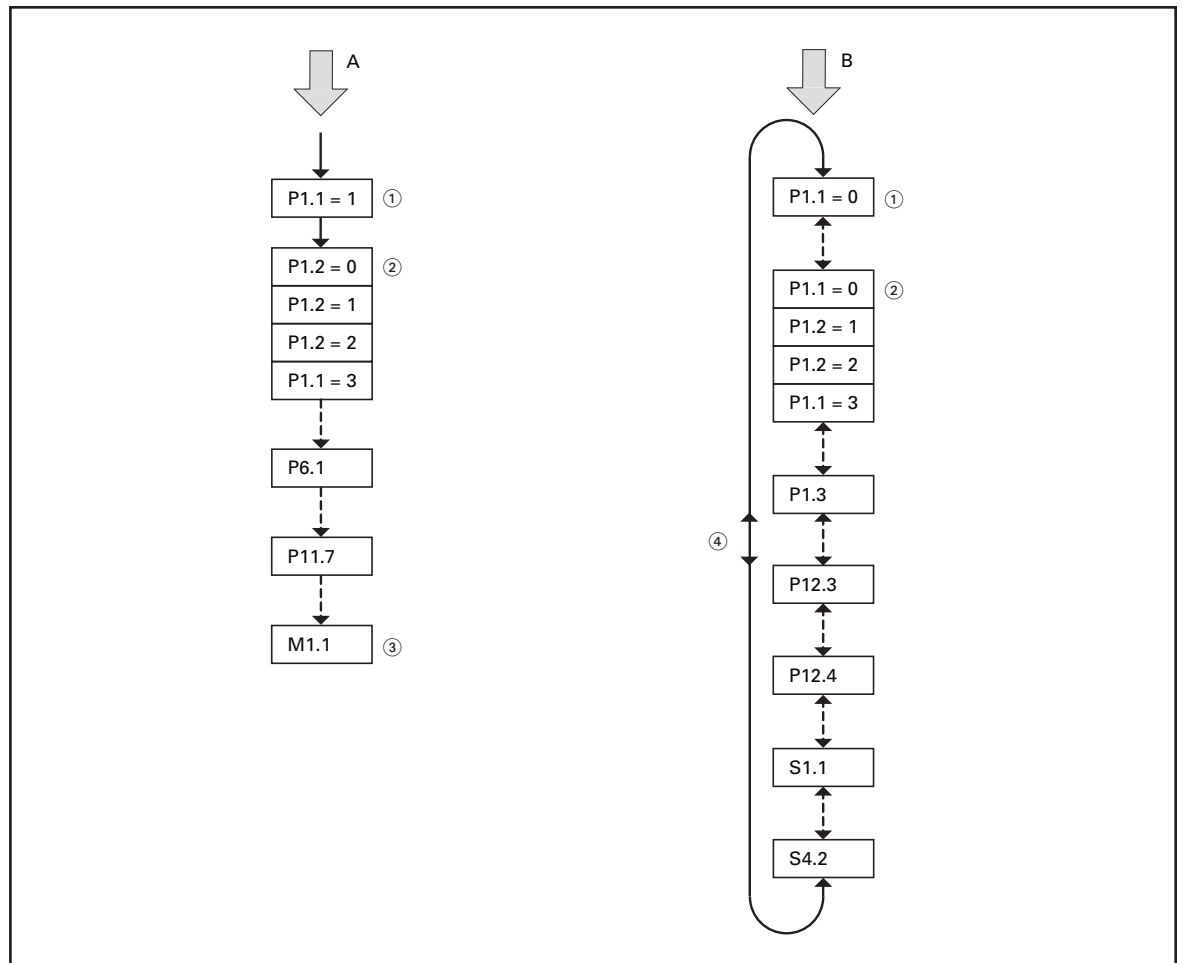

Figure 13: Schematic Representation of Parameter Access
- The parameter menu always starts with parameter P1.1. With P1.1 = 1 the quick start wizard starts to guide you through the procedure. Here you individually confirm a set number of parameters (see A in **Figure 13**).
- To get free access to all parameters, select P1.1 = 0 (see B in **Figure 13**).
The quick-start wizard guides you in the quick configuration application through all important settings that have to be made or that you should check for your application (see A in **Figure 13**). The parameters that are called during the process are listed in **Table 10** on **Page 32** in column Basic (Standard Drive).
Besides the parameters of the Quick Configuration, system parameters S1.1 to S4.2 are also shown after the initial setting. With P1.1 = 0 you can select access to all parameters; the keys of the operator panel are fully functional (free parameterization, see B in **Figure 13**).